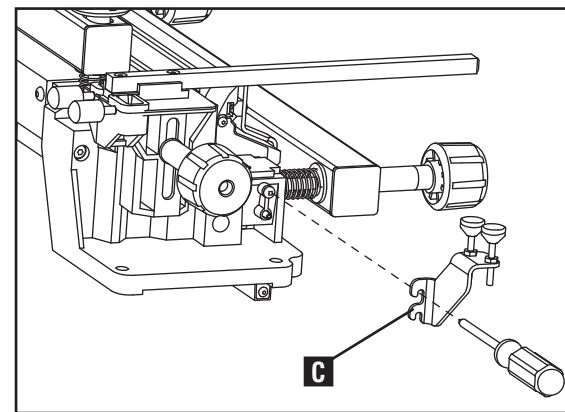

Fig. D2
Be sure to install the appropriate router bit depth gauge at (C) Fig. D2.